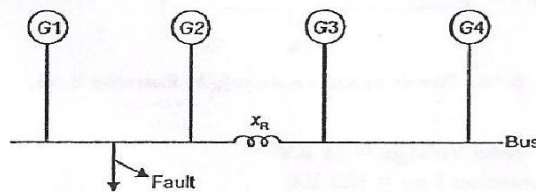

Fig. 8.15: Sample power system of Example 8.14.
**Example 8.14:** Fig. 8.15 shows a system having four synchronous generators each rated 11.2 KV, 60 MVA and each having a subtransient reactance of 16%. Find (a) fault level for a fault on one of the feeders (near the bus with  $x = 0$ ). (b) the reactance of the current limiting reactor  $x_R$  to limit the fault level to 860 MVA for a fault on one of the feeders near the bus.
Circuit model under fault condition is shown in Fig. 8.15(a)